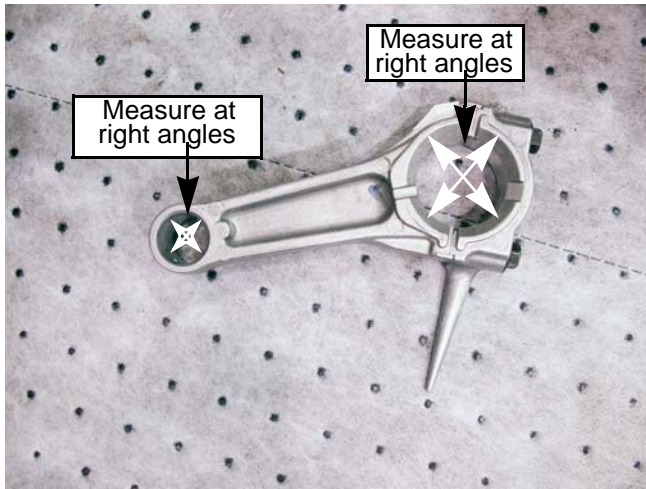

Figure 10.14
3. Measure the inside diameter of the connecting rod at both ends and compare the measurements to those listed in the chart at the end of this chapter. See Figure 10.14.